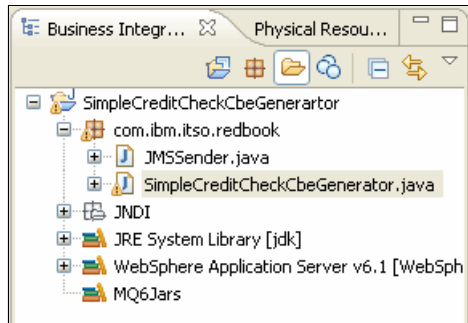

Figure 10-95 Project contents
3. In the Business Integration view (Figure 10-95), expand and navigate the classes to **com.ibm.itso.redbook.SimpleCreditCheckCbeGenerator.java**.